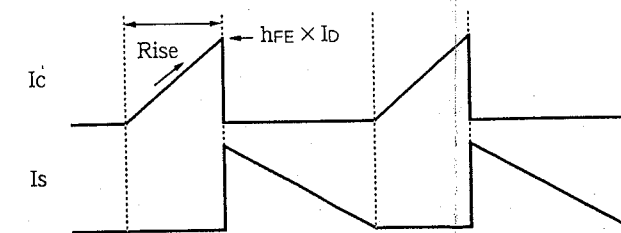

Fig. 14-15 Relations between I_c and I_s
- ① The input AC power is rectified and input to the switching circuit as V_{IN} .
- ② In the switching circuit, starting current I_1 flows to the base of the Q651 through the R258 resistor for starting and C715 capacitor. When the starting current I_1 flows, the Q651 is activated, and I_c starts flowing.
- ③ The I_c linearly increases as shown in Fig. 14-15. On the second side, a starting power is generated at the winding S to make the current I_s' flow, but it is blocked by D_s , and the I_s' does not flow.
- ④ At the same time the starting power is also generated at the base drive winding B, and the drive current I_D flows. Then the Q651 is instantaneously set to ON.
- ⑤ The I_c continues increasing to the point, $I_c = h_{FE} \times I_D$, where is the limit of the base drive current I_D .
- ⑥ When the increasing curve of the I_c is suppressed, counter electromotive force is generated on the base drive winding B. The V_{BE} of the Q651 is drastically biased invertedly by this counter electromotive force and the Q651 is instantaneously set to OFF.
- ⑦ At the same time, starting power is generated in the direction reversed in step ③ on the winding S of the second side. The I_s flows by this counter electromotive force. While the I_s is flowing, starting power is generated in the direction which is biased reversely between base and emitter of the Q651 on the base drive winding B.
- ⑧ When the starting power of the winding S is lost and the I_s does not flow, the starting power of the base drive winding B is also lost. Then the current I_1 flows, and the operation of step ② and after will be repeated, and the switching operation will continue. (Once started, the voltage is induced on the base drive coil by the interaction of coils of the transformer and the Q651 is set to ON again. Therefore switching will continue even if the R258, C715, D659, C721 and R266 are removed.)